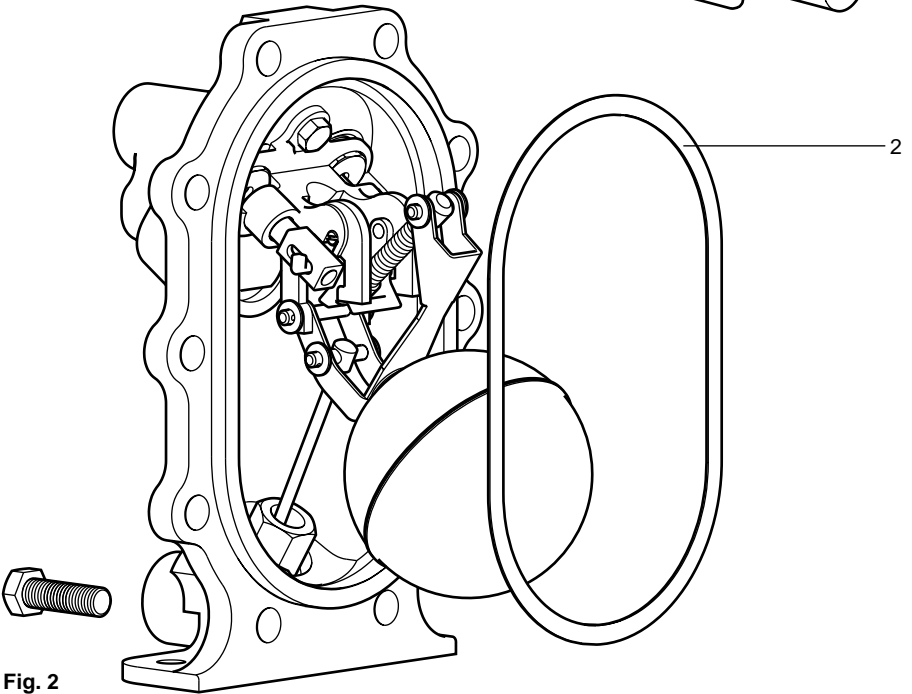

Fig. 2
3. Carefully fit a new gasket (item 2) into the existing body (See Fig. 2).